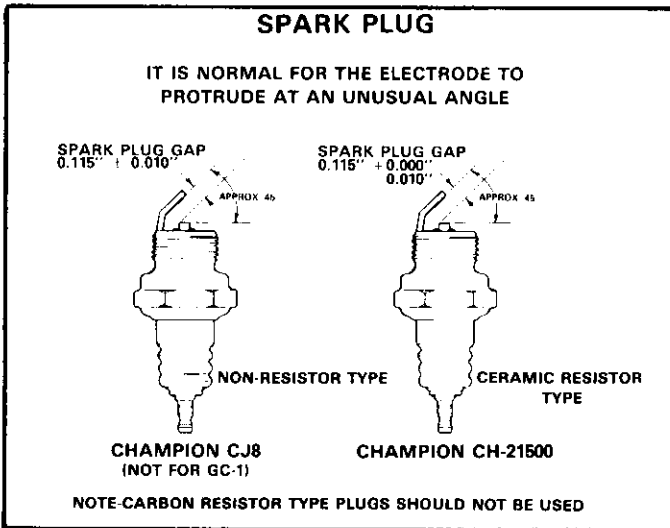

FIGURE 16
- 4 - Figure 16 gives the proper spark gap setting. Note that the spark plug uses an unusual electrode angle in comparison to other spark plug applications. A feeler gauge can be used to check the gap.